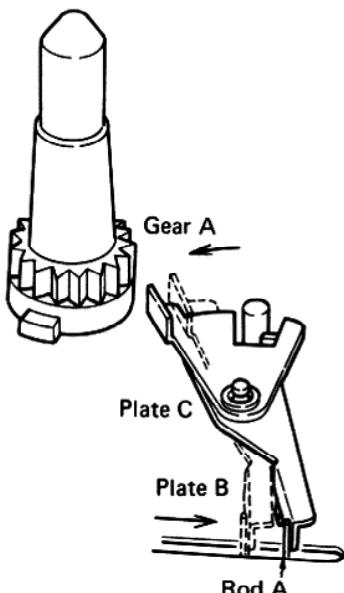

Fig. 11
- Rod A pushes plate B and plate C above plate B moves in the direction toward gear A (Fig. 11).